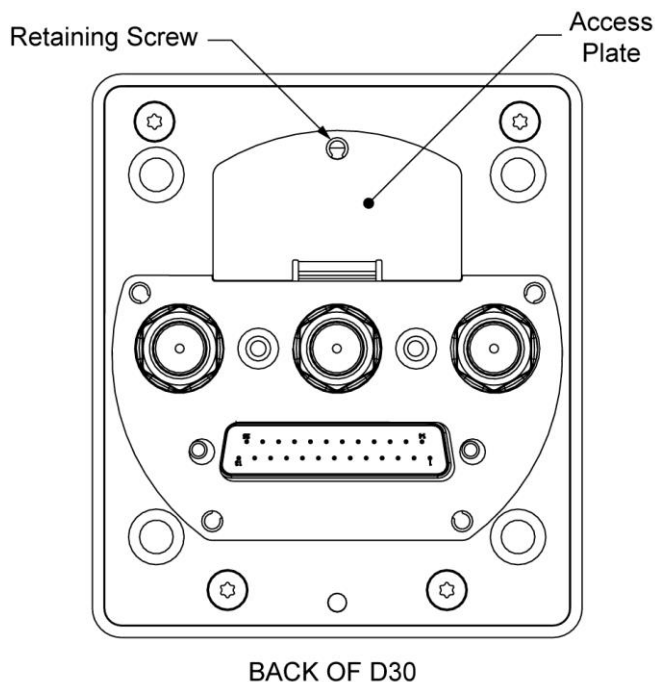

Figure 3: Backup Battery Access
1. On back of unit, loosen captured retaining screw on access plate (see Figure 3), and then remove access plate.